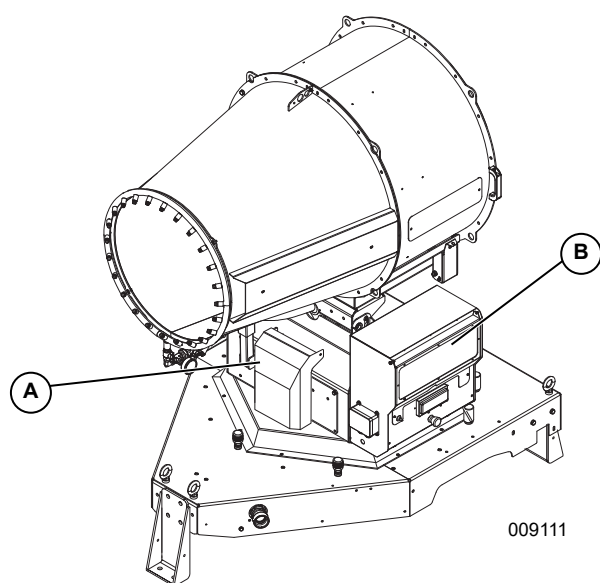

Figure 2-5. Unit and Serial Number Locations
See Figure 2-5 to locate the unit ID tag (A) and vehicle identification number (VIN) tag (B). Important information such as the unit model number, serial number, VIN, and tire loading information are listed on these tags. Record the information from these tags in the event the tags are lost or damaged. This information may be needed when ordering parts or requesting assistance